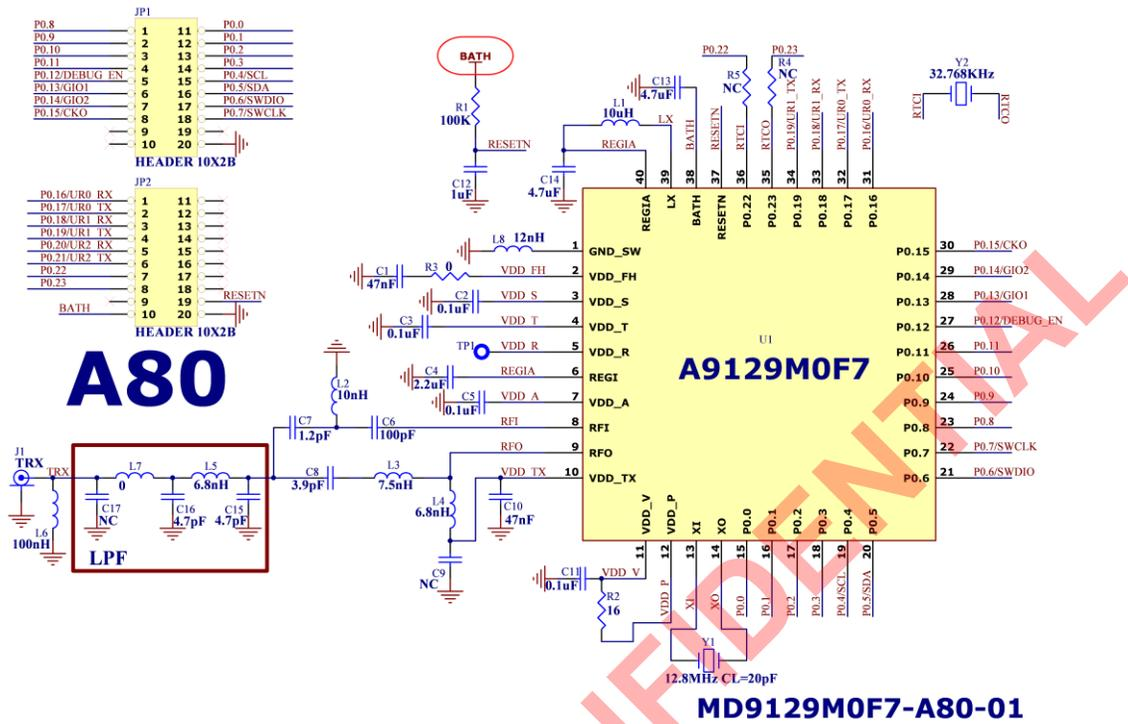
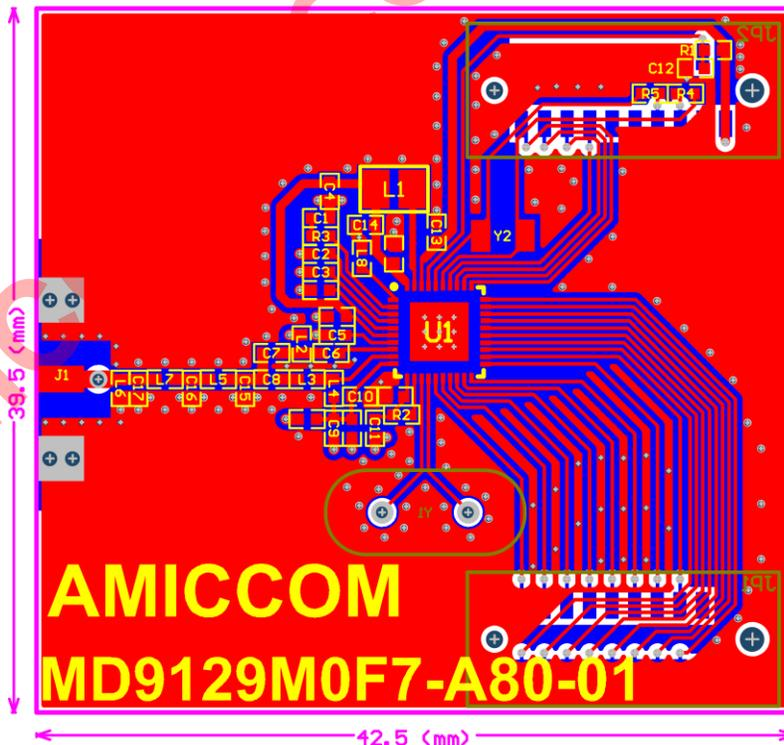

Fig. 2.1a Schematic of MD9129M0F7-A80
Fig. 2.1b Layout of MD9129M0F7-A80
A9129M0F7 is AMICCOM’s reference design for sub 1GHz application (please see module spec. for the last update). The schematic is as Fig. 2.1a and the layout is as Fig. 2.1b. This document mainly notifies some key points which should be paid attention while doing PCB layout.
3. In addition to ground plane, the clean and stable VDD source is also a key factor to impact RF performance. The bypass capacitor (C5, C13, C14, C10, C11, C2, and C3) on this reference design is used for this purpose. To have the clean VDD source to A9129M0F7, those capacitors should be placed as close to the IC pins as possible and its ground via should be just nearby the components ground pad. Please refer to Fig. 2.1b.